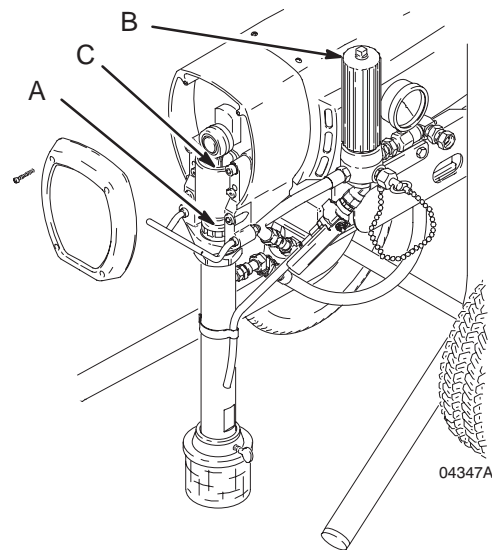

Fig 5
1. Check wet-cup (A) daily. See Fig 5. First relieve pressure and remove wet-cup plug. Keep wet-cup 1/3 full with Graco Throat Seal Liquid at all times to help prevent material from building up on piston rod which causes packings to wear prematurely. Tighten wet-cup, which is also packing nut, just enough to stop leakage. Overtightening wet-cup may cause packings to bind and wear out quickly. Use screwdriver and light hammer to adjust wet-cup.
2. Clean fluid filter (B) often and whenever sprayer is stored. First relieve pressure. See manual 307–273 for cleaning procedure.
3. Fill connecting rod cavity (C) with motor oil every 100 hours of operation. First relieve pressure and then remove front cover.